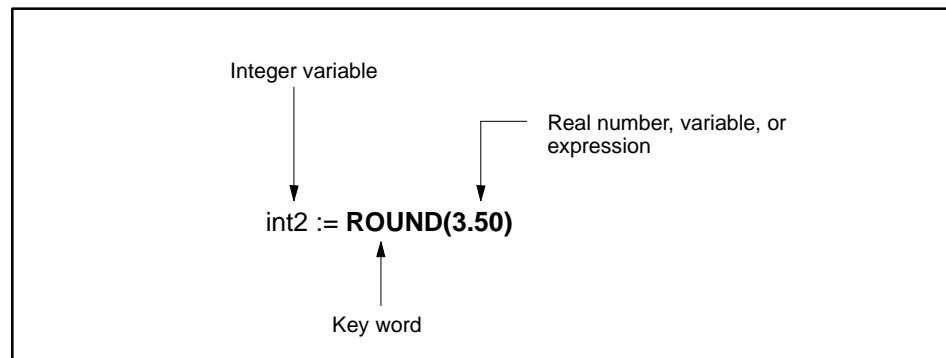

Figure 11-44 ROUND Function
- The returned value is an integer. For example, in Figure 11-44, the value of the variable, `int2`, is 4.